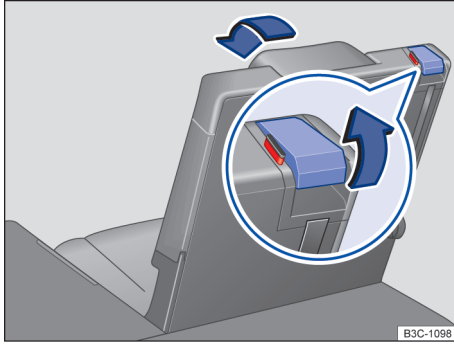

Fig. 2 Third row seat: folding the rear seat into the cargo floor position.
6. Remove any objects from the footwell in front of and behind the rear seat → ①.
8. To release the rear seat backrest, pull the release lever → fig. 2 all the way up.
The red marking on the release lever → fig. 2 must no longer be visible.
- A red marking on the release lever → fig. 2 indicates that the rear seat backrest is not latched. The red marking must not be visible when the backrest is latched.